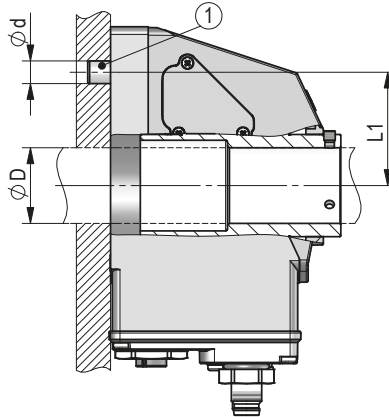
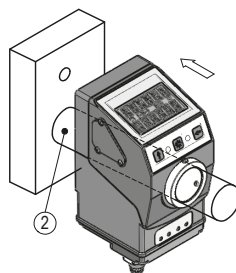
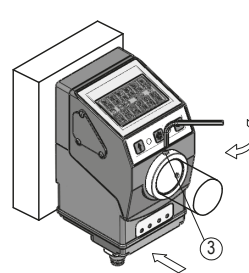

Fig. 1: Mounting dimensions
Fig. 2: Mounting
Fig. 3: Fastening torque for screws
- ▶ Ensure a low shaft and angle offset between shaft and accommodation bore by applying appropriate manufacturing methods (see Fig. 1 + Tab. 1).
**Preparing mounting (Fig. 1, Fig. 2, Fig. 3):**
1. Make the bore  $\varnothing d$  for torque support ① at distance L1 to the drive shaft ②.
2. Pay attention to the diameter  $\varnothing D$  of the drive shaft ③.
### Mounting (Fig. 1, Fig. 2, Fig. 3):